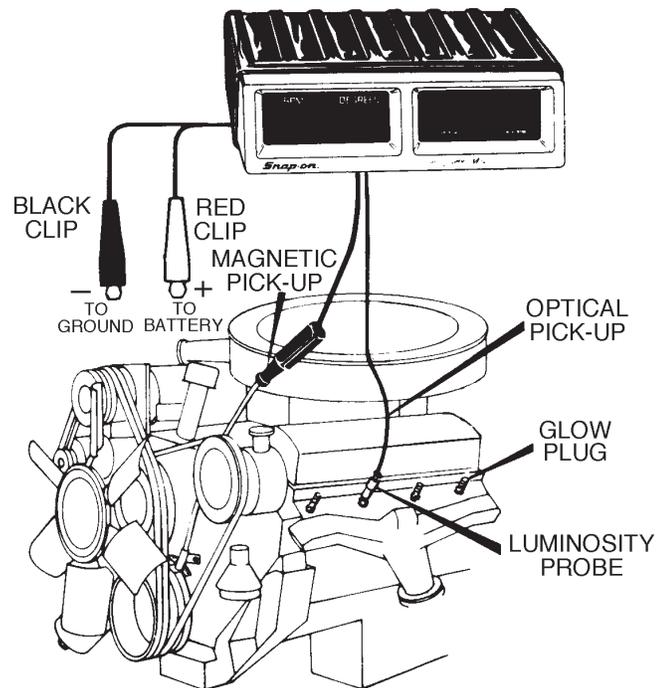

Figure 4-9. Hookup
**f. Hookup Procedures and Testing Tips (Figure 4-9)**